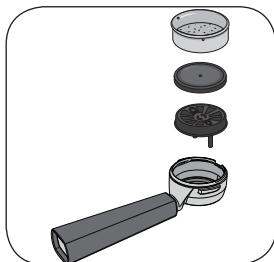

Fig. 5
Insert the dripper (B), the perforated silicone disc (C) and the 2 cup (E) or 1 cup (D) filter, in the filter holder (A) (Fig. 5). The perforated silicone disc can be inserted only in one direction on the dripper. Measure out the coffee in the filter and lightly press with the specially provided presser: for two coffees completely fill two measuring units, while for one coffee fill only one. Insert the filter holder into its seat. Tighten it securely by turning it from left to right, making sure it is correctly fitted to the flange (Fig. 6).